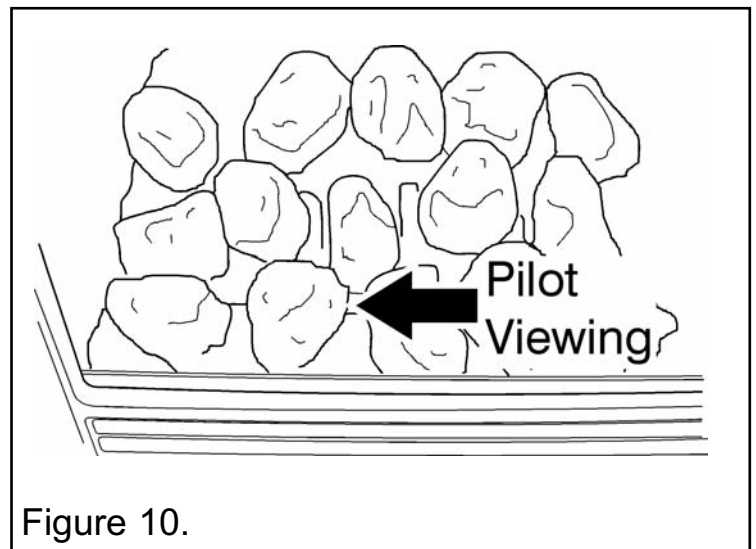

Figure 10.
- Turn the control knob clockwise to the 'Off' position. Repeat this operation until a flame appears at the pilot. The pilot can be seen by looking through the gap in the fuel effect (See figure 10). There may be a delay before the pilot lights due to air being purged from the system. When a flame appears at the pilot keep the control knob depressed and hold the pilot ignition position for five seconds. When the control knob is released the pilot flame should remain lit.